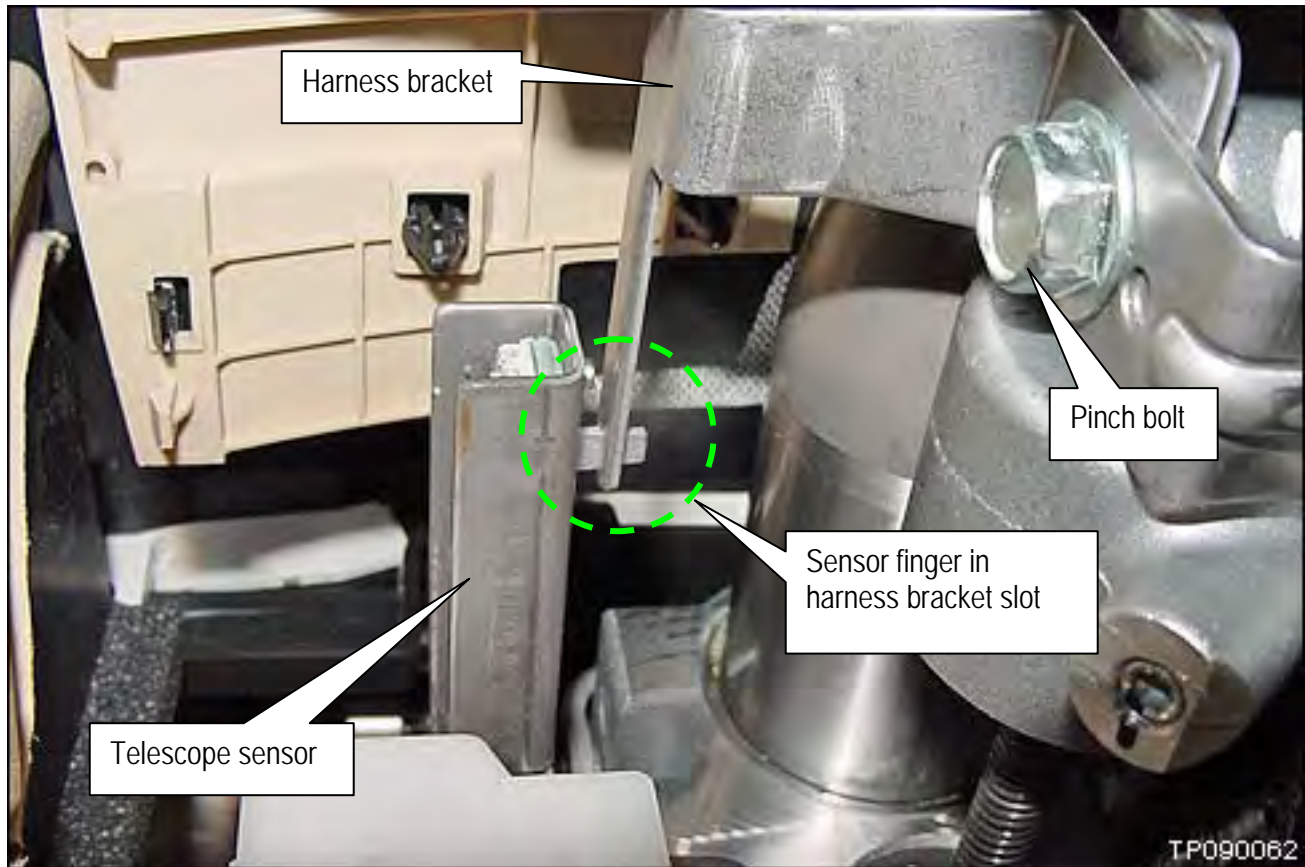

Figure 41
- Make sure the telescope sensor finger is in the harness bracket slot (see Figure 41 below).